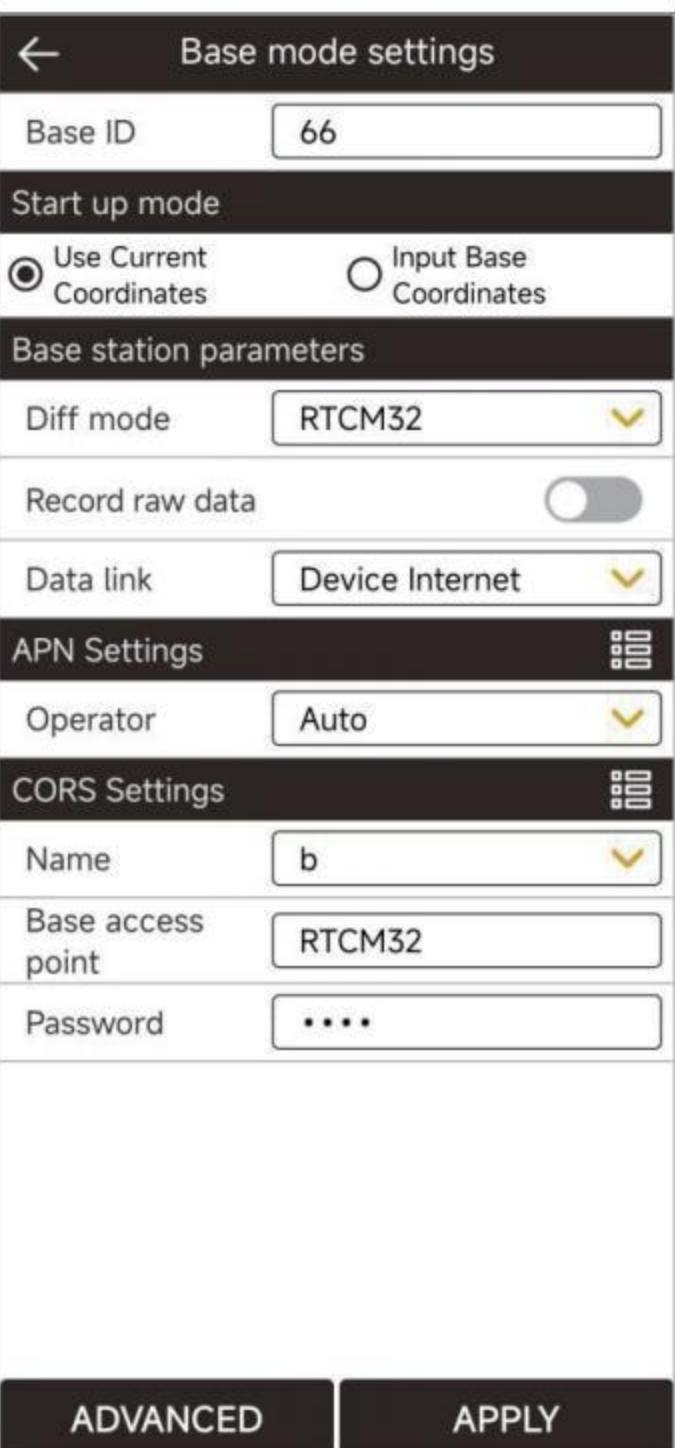

Figure 3.5-1
Click "Device" -> "Base", as shown in Figure 3.5-1. This function allows the GNSS device to act as a base station, sending satellite information data in a certain way to provide high-precision calculation conditions for the receiving rover station. The main station as a base station needs to set parameters such as startup conditions, startup mode, and data broadcast parameters.
1. For the Device Internet NTRIP protocol, the base station sets the starting transmission base station access point, as shown in Figure 3.5-1, while the rover station obtains a list of mount points and selects the corresponding base station mount point for connection;